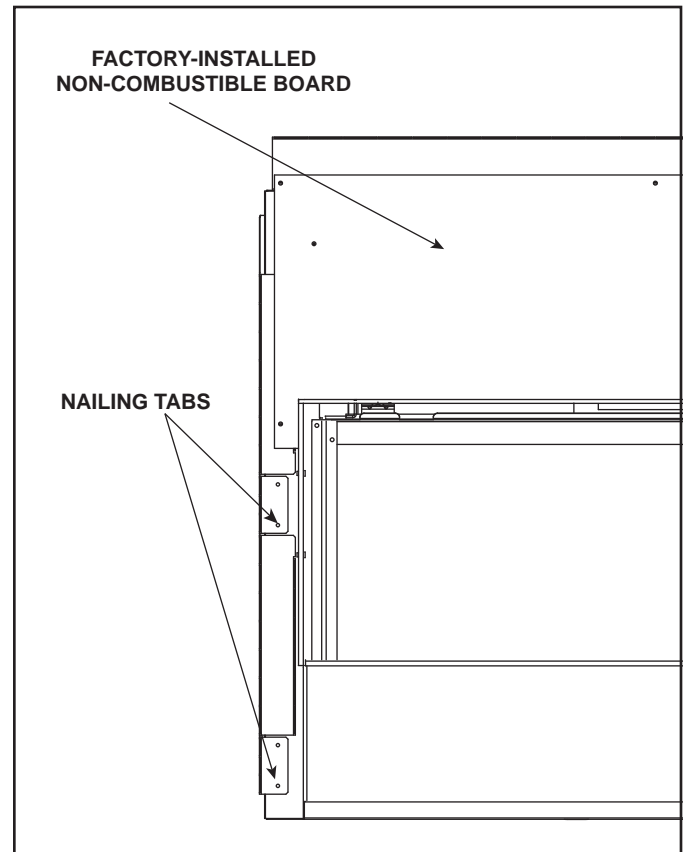

Figure 13.1 Nailing Tabs Installation Position
1. Bend two nailing tabs away from fireplace 180° on both left and right nailing tabs. Do not adjust the column standoffs. See Figure 13.1.